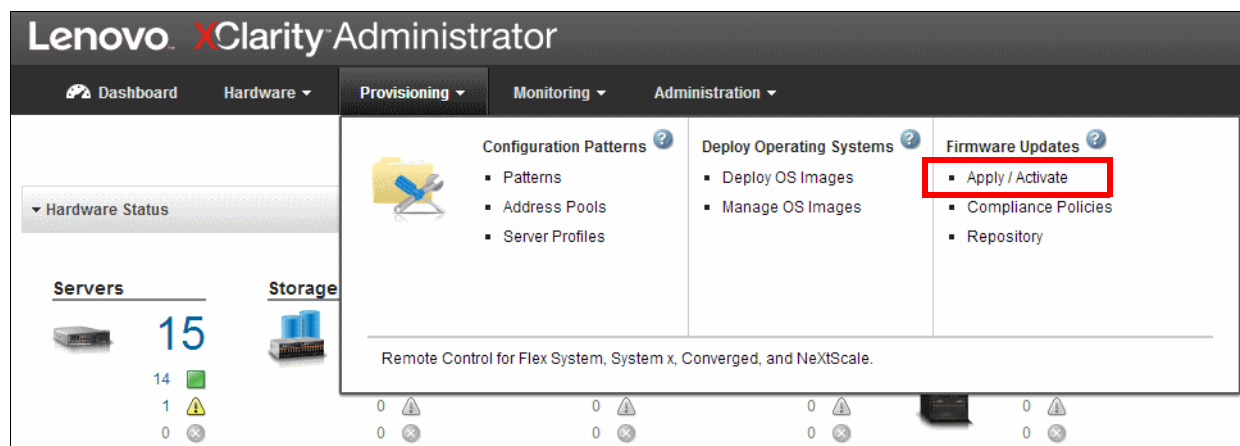

Figure 5-70 Apply/Activate firmware with LXCA
1. Click **Provisioning** → **Apply / Activate** under the Firmware Updates section, as shown in Figure 5-70 on page 174.